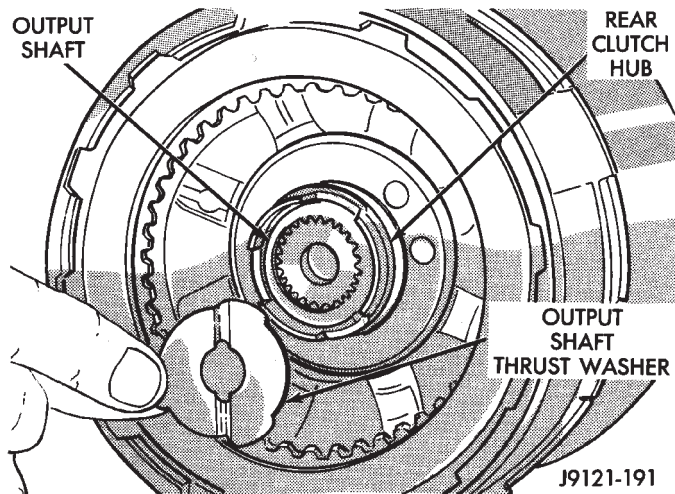

Fig. 149 Installing Output Shaft Thrust Washer
(5) Coat output shaft thrust washer with petroleum jelly. Then install washer in rear clutch hub (Fig. 149). Use enough petroleum jelly to hold washer in place. **Be sure grooved side of washer faces rearward (toward output shaft) as shown. Also note that washer only fits one way in clutch hub.**